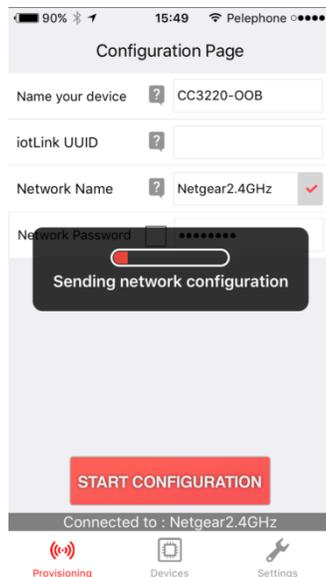

Figure 13. Wi-Fi Starter Provisioning Process (1/3)
- Successful provisioning is indicated on the mobile application as shown in Figure 13, Figure 14, and Figure 15. On the LaunchPad, the red Led (D7) turns solid on.